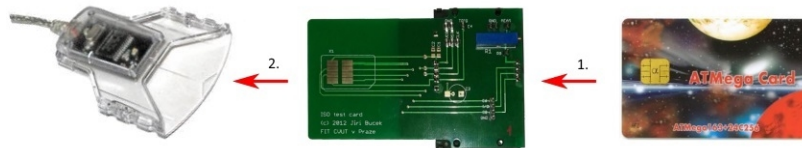

Fig. 4 Insert card into the measuring adaptor (green PCB), then insert the measuring adaptor into the reader.
4. Remove the card from the reader and insert it into the measuring adaptor (green PCB), then insert the measuring adaptor into the reader. See Figure 4